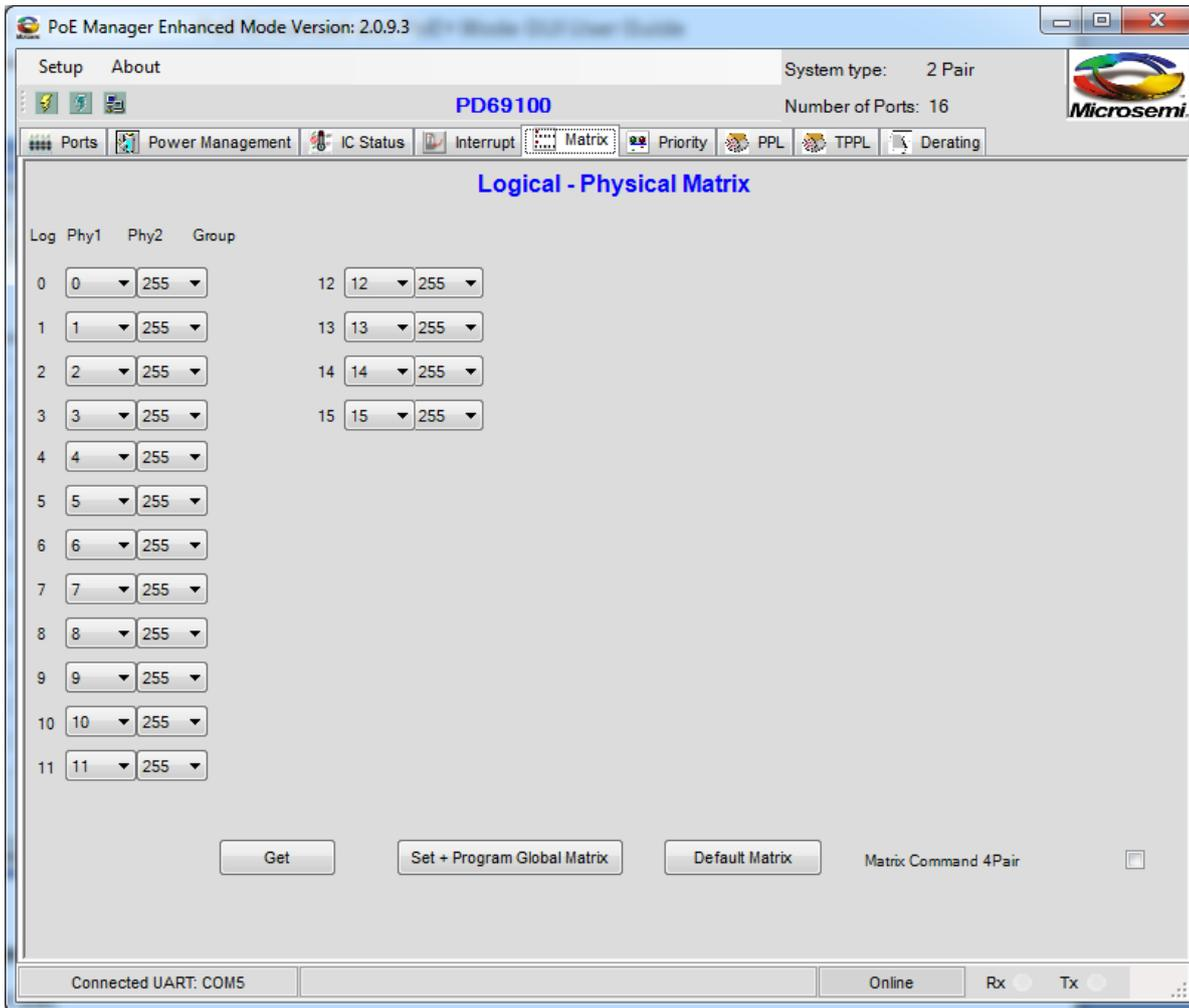

Figure 5-5: PoE Manager Enhanced Mode Window, Matrix Tab (EMO)
- On the PoE Manager Enhanced Mode window, click the **Matrix tab**. The following screen appears (Figure 5-5):